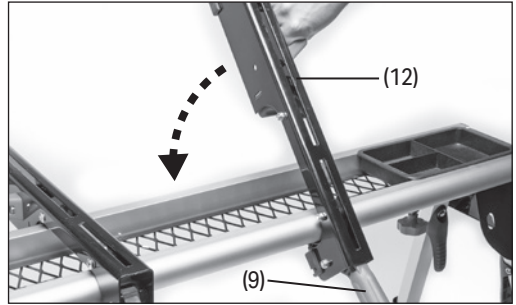

Fig. 9
6.5 Mounting a Mitre Saw (Fig.9 – Fig.16)